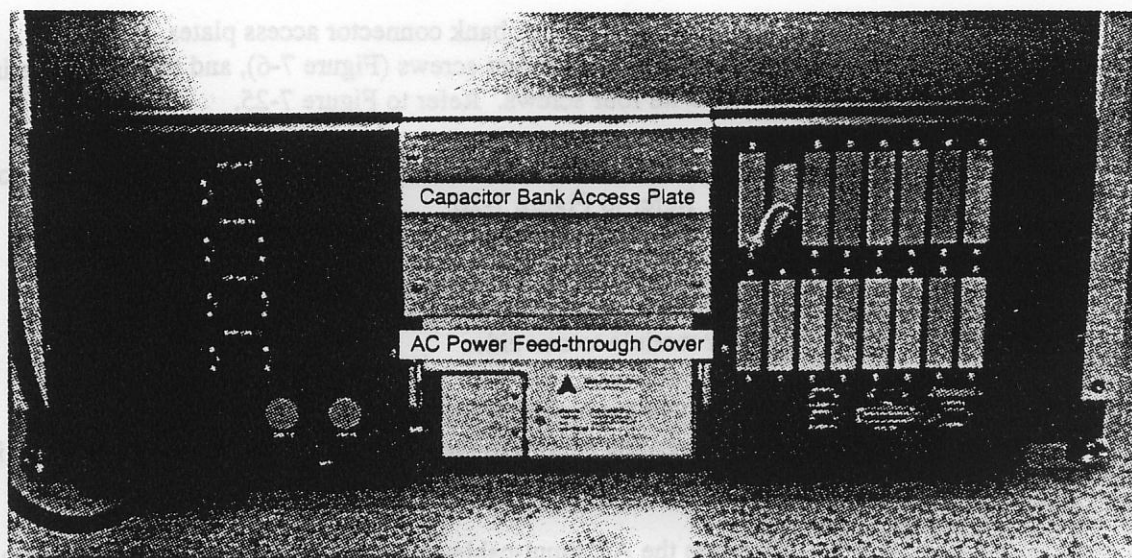

Figure 7-25. Back Capacitor Bank Access Plate
6. Remove the capacitor bank connector access plates. The front plate is a panel with two screws (Figure 7-6), and the back plate is a box with four screws. Refer to Figure 7-25.
9. Remove the AC input-cable-strain-relief-plate (three screws) from the lower left corner of the back of the capacitor bank. Refer to Figure 7-25.
5. Remove the capacitor bank connector access plate (shown in Figure 7-25) from the upper right corner of the incoming power module (four screws).